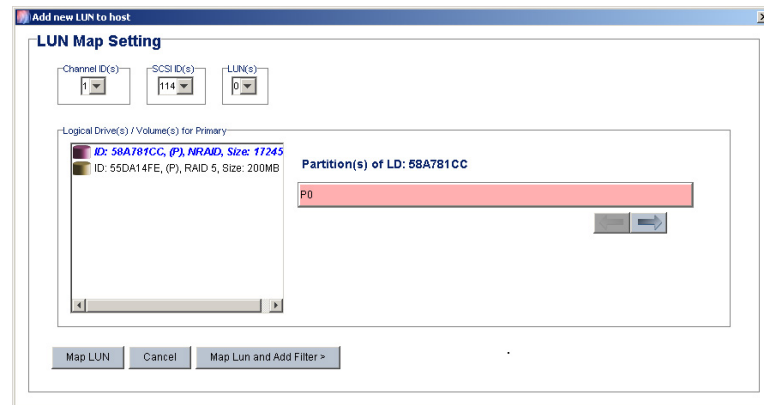

Figure 10-3: LUN Map Setting Window
Step 3. After selecting the ID, the **LUN Map Setting** window appears as shown in *Figure 10-3*.
Step 2. Follow the steps listed in *Section 10.1* above to access the *Host LUN Mapping* window shown in *Figure 10-3*.
-  **Step 2.** Follow the steps listed in *Section 10.1* above to access the **LUN Map Setting** window shown in *Figure 10-3*.